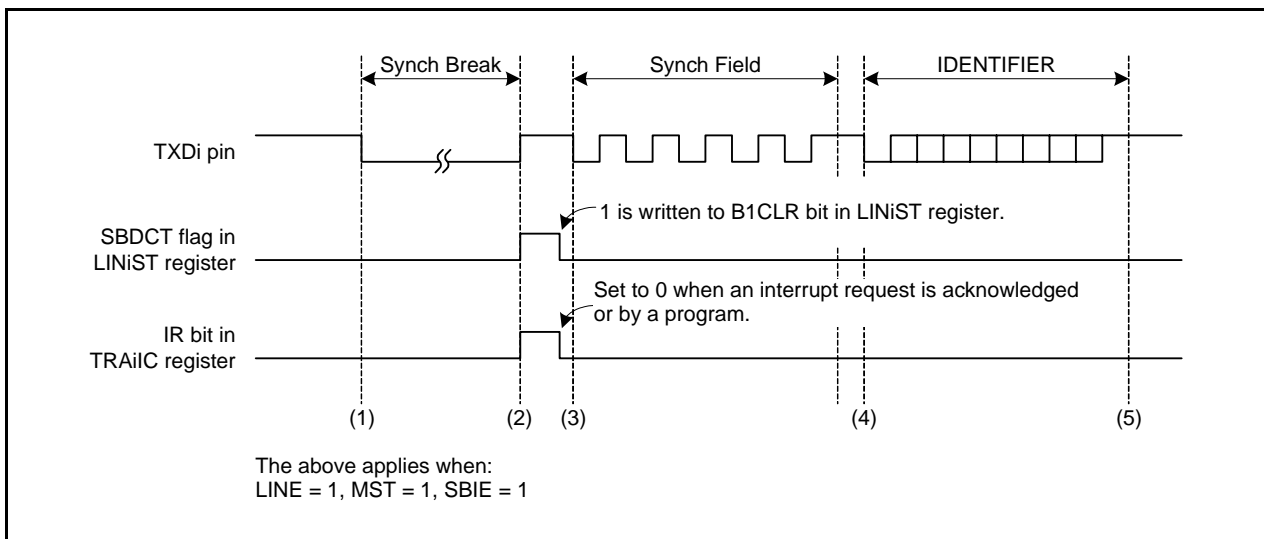
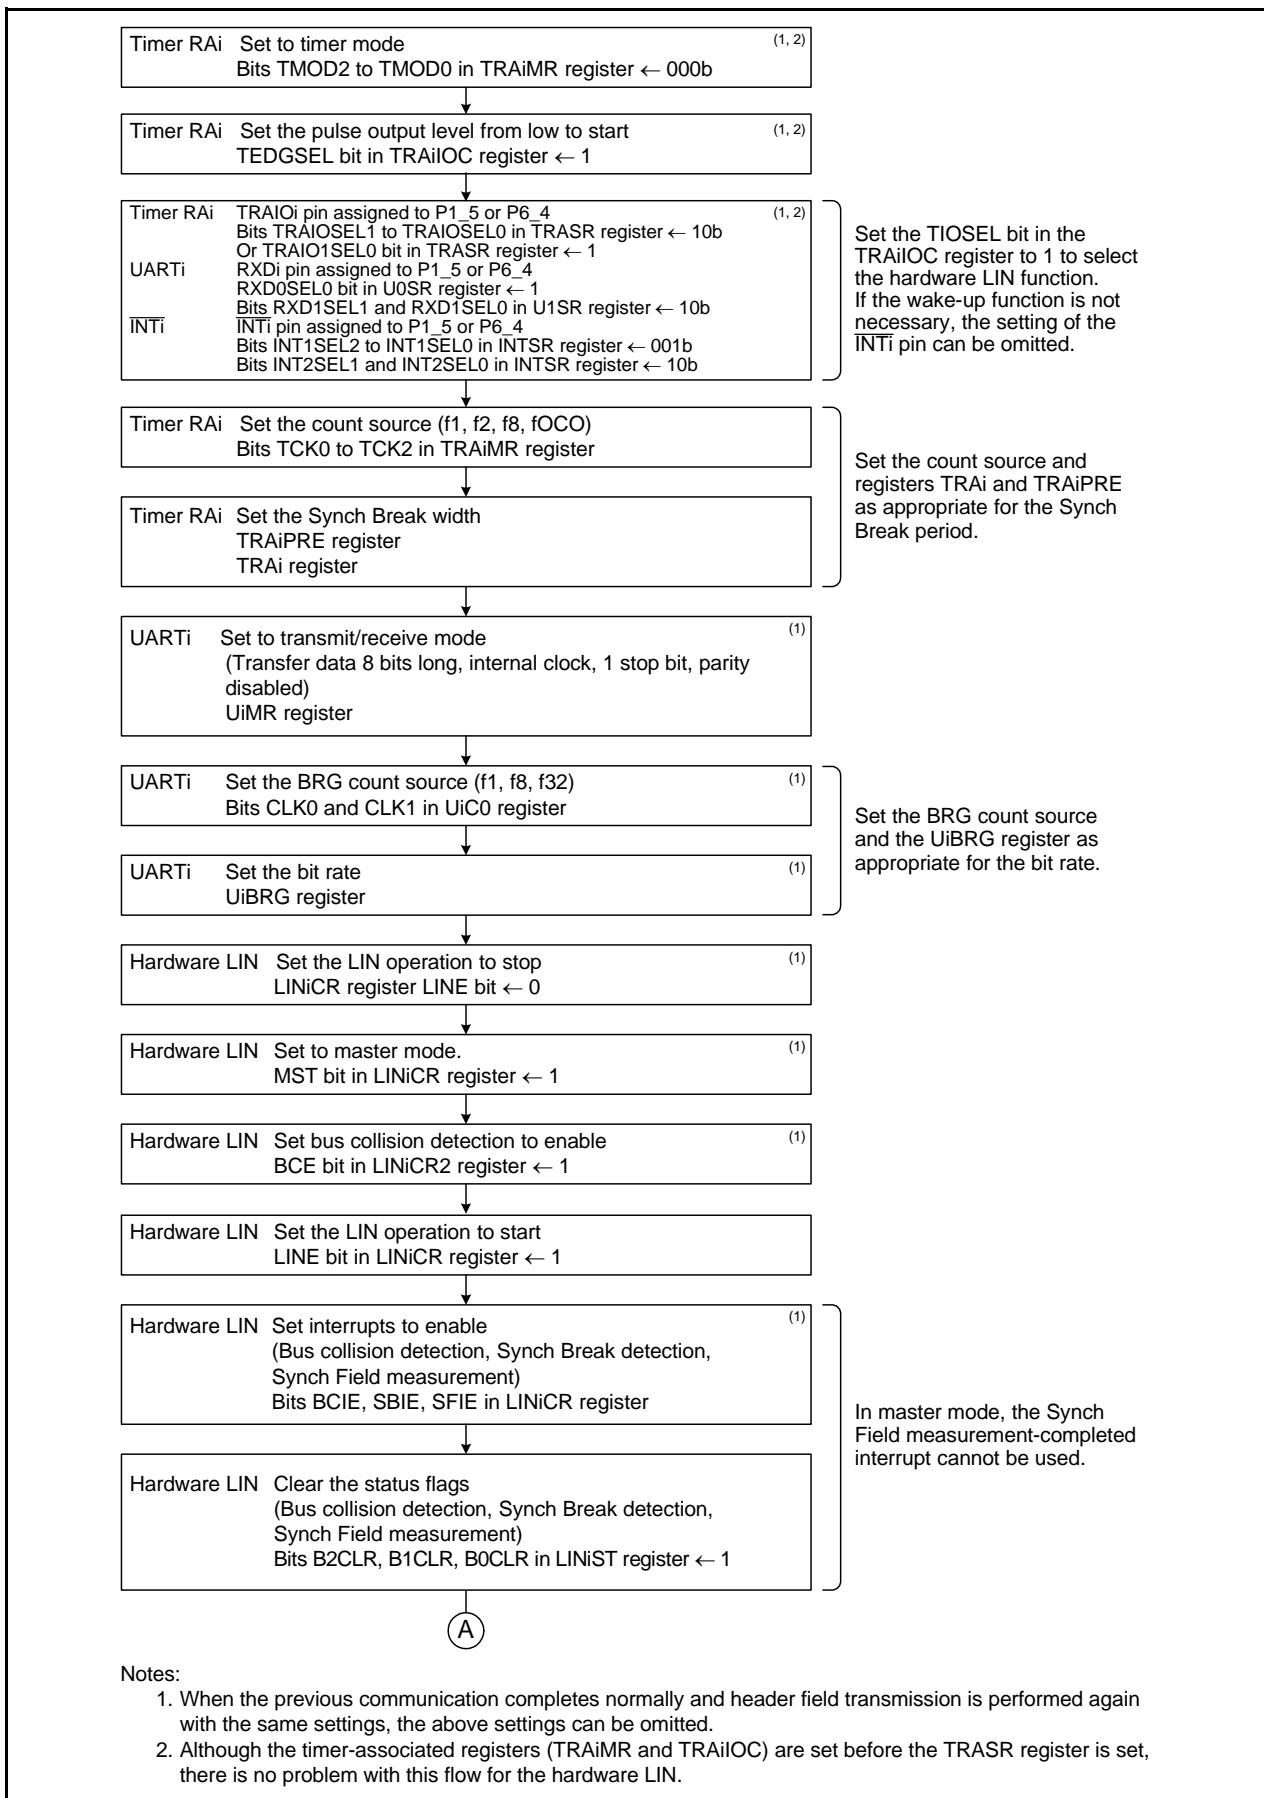
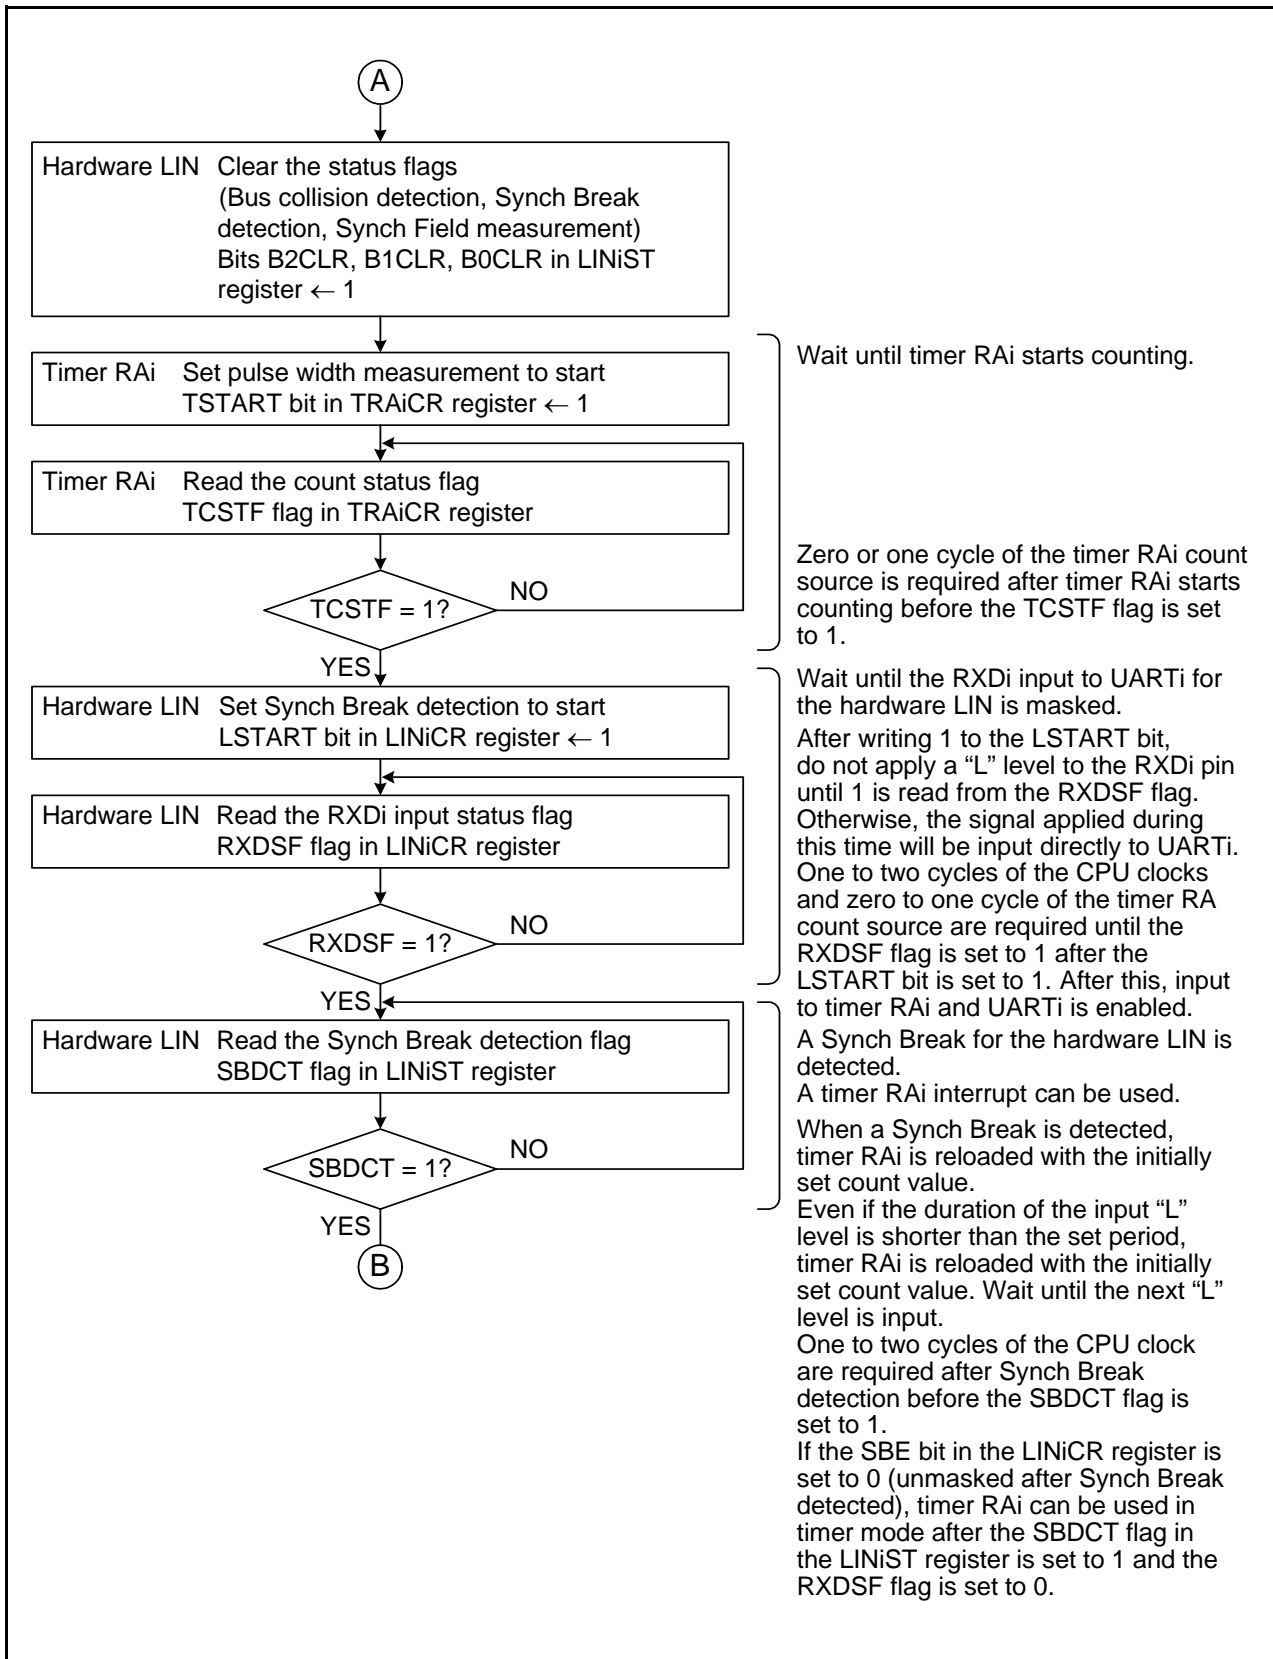

Figure 27.2 Operating Example during Header Field Transmission
Figure 27.3 Header Field Transmission Flowchart Example (1)
Figure 27.7 Header Field Reception Flowchart Example (2)
3. Inputs to timer RAi and UARTi are disabled immediately after the LINE bit is set to 1 (LIN operation starts). (Refer to **Figure 27.3 Header Field Transmission Flowchart Example (1)** and **Figure 27.7 Header Field Reception Flowchart Example (2)**.)
Figure 27.2 shows an Operating Example during Header Field Transmission in master mode. Figures 27.3 and 27.4 show Examples of Header Field Transmission Flowchart.